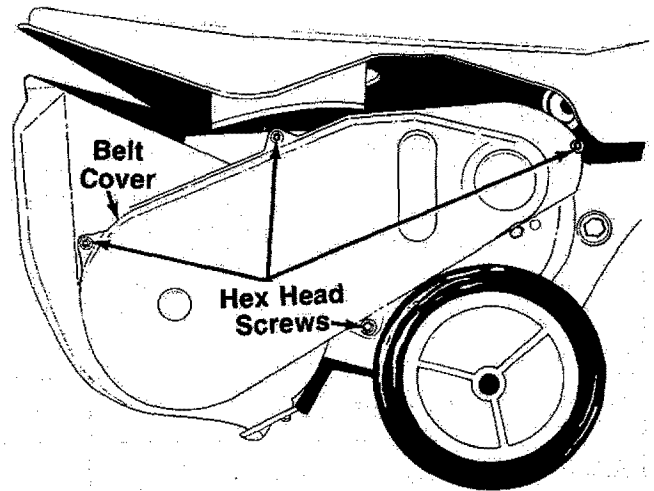

FIGURE 7.
- Lift upward on the shroud (be careful to clear the muffler) until you can reach the belt cover on the side of the snow thrower. See figure 7. Do not disconnect the primer hose underneath the shroud.